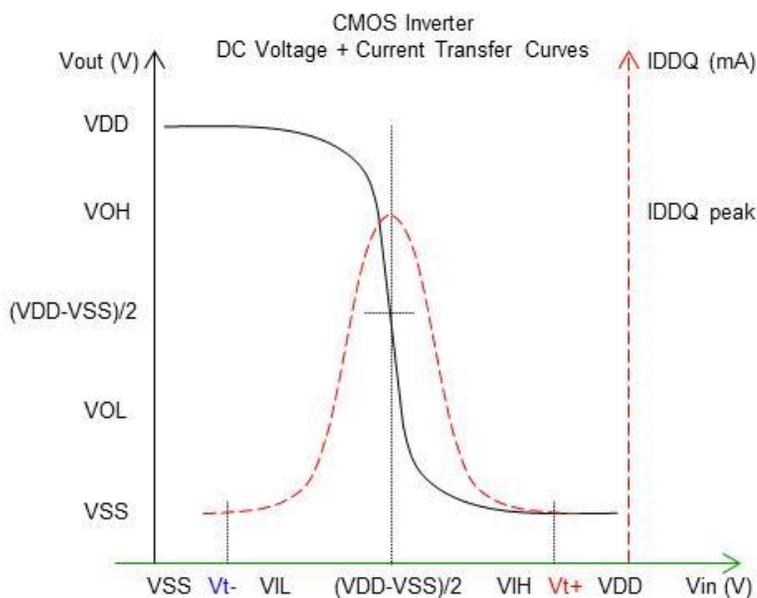
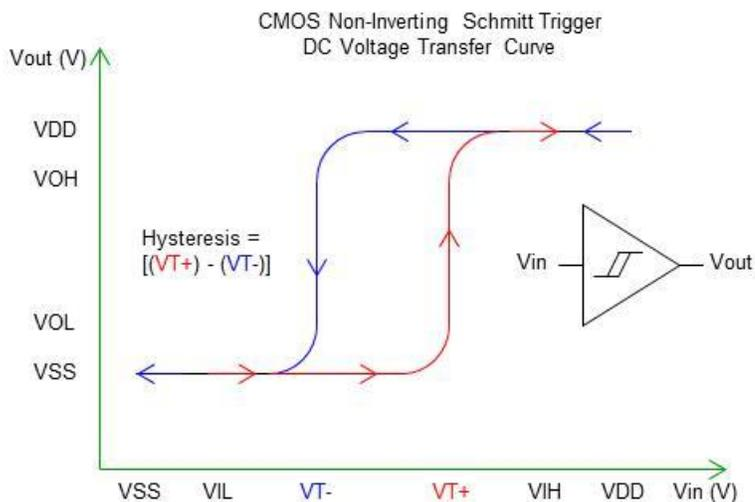

Figure 2: CMOS Inverter: DC Voltage + Current Transfer Curves
Figure 3: CMOS Non-Inverting Schmitt Trigger DC Voltage Transfer Curve
Since CMOS inputs are High-Z, any condition where the logic input is not driven to either a logic HI or logic LO state can result in indeterminate logic levels. The results of this condition are: 1) Undesired or anomalous output behavior, such as unknown logic state, or oscillation and 2) High current consumption can result if the input logic level is at or near the mid-point of the input voltage range, or between LO and HI logic levels. This is the region of maximum switching current (I_{DDQ}) for CMOS logic circuits. The V_{out} vs. V_{in} and I_{DDQ} vs. V_{in} transfer curves for a CMOS inverter are shown in Figure 2.
The threshold voltage definitions for standard CMOS inputs and Schmitt Trigger inputs are given here and in Figure 2 and Figures 3a, 3b.
- V_{t+}/V_{t-} are the threshold voltages for standard CMOS input buffers, which are determined by the properties of the P and N MOSFET devices in an inverter, or logic element, and as defined in Figure 2.
- V_{T+}/V_{T-} are the threshold voltages for CMOS Schmitt Trigger input buffers, which determine the hysteresis properties of the buffer, and as defined in Figures 3, 4.
This consideration applies to both standard CMOS inputs as well as Schmitt Trigger inputs. Schmitt Trigger inputs include hysteresis for improved noise immunity and a greater tolerance to slow input rise and fall times (t_r , t_f), but are otherwise functionally equivalent to standard CMOS inputs. Hysteresis enables a Schmitt Trigger input to switch at different trigger voltages (V_{T+} , V_{T-}) for a HI to LO transition vs. a LO to HI transition. The difference between V_{T+} and V_{T-} is the hysteresis voltage, as shown in Figures 3 and 4.
Figure 3. General “best practices” for digital design dictates that all I/O signals are maintained at known logic values. Pull-up and pull-down resistors are frequently used for this purpose. Since the CMOS logic inputs are High-Z, and do not require current to set the input voltage, these pull-up/pull-down resistors can be high-valued (e.g. $\sim 100k\Omega$), resulting in a weak pull-up/pull-down action. This is all that is necessary. After the initial charge adjustment, no DC current is required.
2. In the intermediate case, input voltage potential is between V_{t-} and V_{t+} and there is little or no noise at the floating input. In this case with the input voltage at approximately $(V_{DD}-V_{SS})/2$, the input buffer now dissipates high DC current (IDDQ), which is normally only flowing during high-speed switching transients. This current dissipates excess power and may damage the logic circuits over time. See Figure 2 for DC voltage and current transfer curves for a CMOS inverter.
As is seen from the curves in Figure 3, if the inverter input voltage is held at an indeterminate value (i.e. between V_{IL} and V_{IH}), then the output voltage will also be indeterminate in accordance with the $V_{out}-V_{in}$ relationship of the inverter’s transfer curve. This condition not only results in very high static IDDQ current, but the indeterminate inverter output voltage will also propagate to the next stage logic gate operation, resulting in similar anomalous operation for the downstream electronics.
This high current and indeterminate output conditions apply equally to both standard CMOS inputs and Schmitt Trigger inputs, since both types of inputs have similar DC voltage transfer curves and are based on the CMOS inverter circuit. This means that both device types can experience high IDDQ current when inputs are near $(V_{DD}-V_{SS})/2$. The peak IDDQ current for a Schmitt Trigger input will be at a different input voltage value than for a standard CMOS input. This is due to the differences between V_{t+}/V_{t-} threshold voltages for the standard CMOS inputs (see Figure 2) and V_{T+}/V_{T-} Schmitt Trigger threshold voltages (see Figures 3, 4). The peak IDDQ current will, however, still occur close to the midpoint of the VDD power supply voltage as in the case of the standard CMOS inverter circuit.